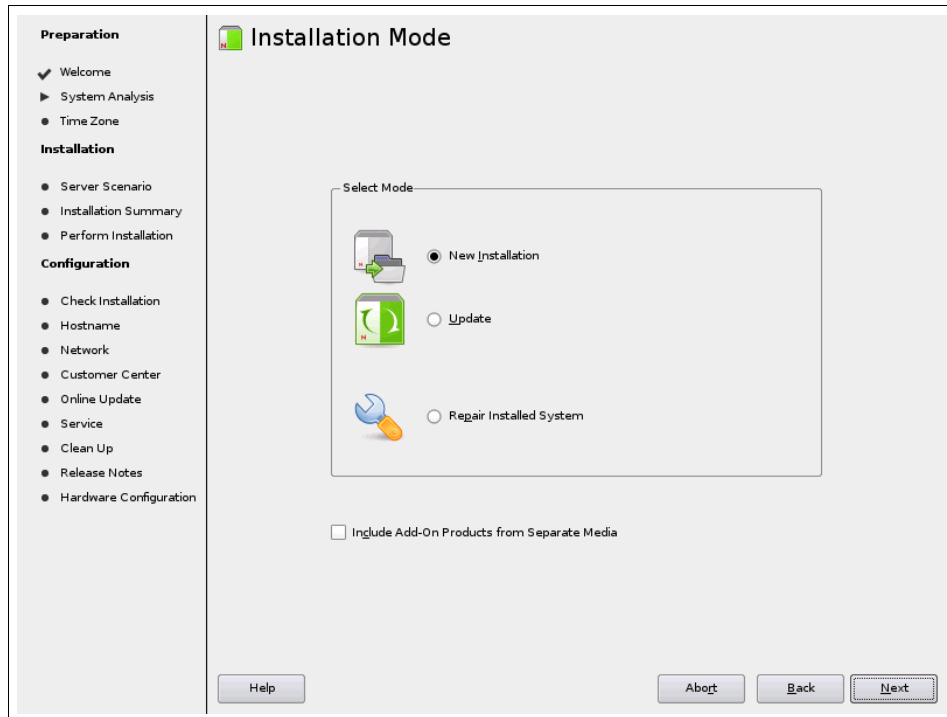

Figure 12-47 Installation Welcome window
1. The first window is the installation mode window, as shown in Figure 12-47.